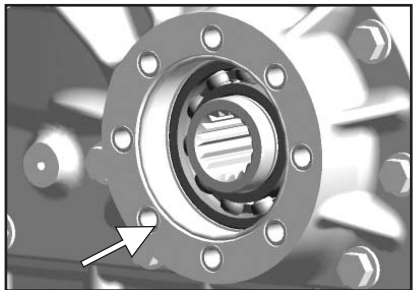

Fig. 15
4. Install O-Ring, furnished with P.T.O., (Fig. 15). To prevent damage to O-Ring make sure it is installed in groove as shown.